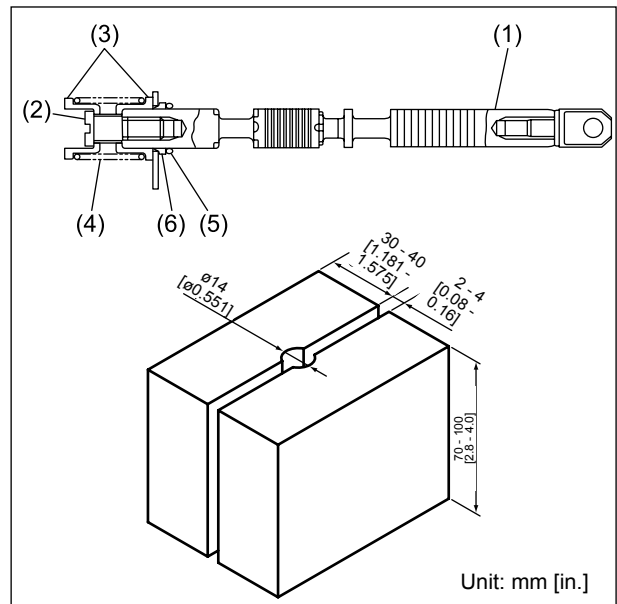

Fig. 3.432
- ③ Hold the sub-assembly of the spool (1) that has been removed in step ① in a vise equipped with soft jaws (pieces of hard wood) shown in Figure 3.432, with care not to damage its exterior. Loosen the cap screw (2), and then disassemble the spring seat (3) and spring (4). Remove the “O”-ring (5) and wiper (6).